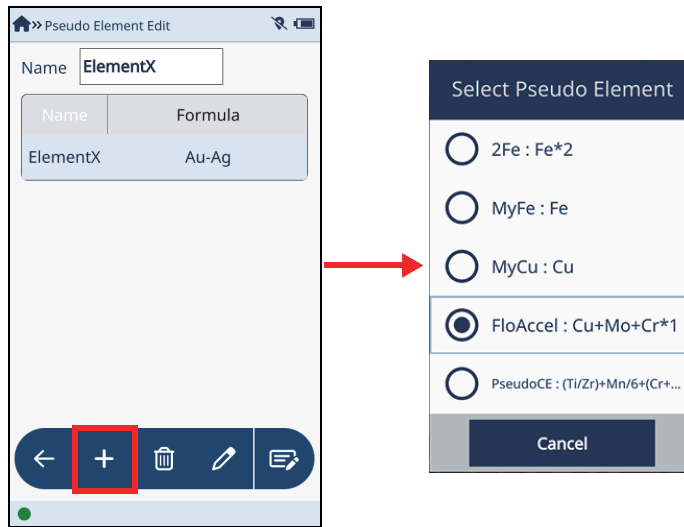

Figure 2-55 Viewing an element in the Pseudo Element list
7. Tap the **Back** button () to display the **Pseudo Element Edit** screen (see Figure 2-55 on page 69).
8. Tap the **Add** button () to open the **Select Pseudo Element** dialog box (see Figure 2-55 on page 69).